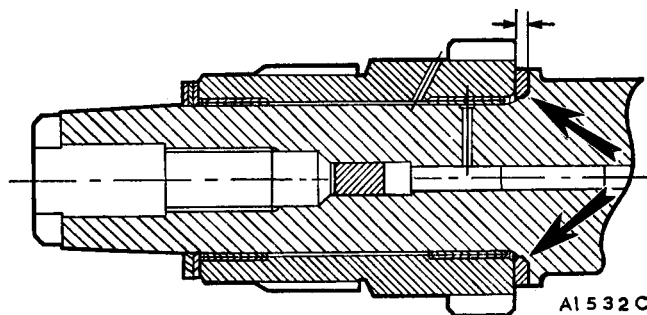

Fig. A.16
6. Check the primary gear running clearance (Fig. A.16). Fit the inner thrust washer with its chamfered bore against the crankshaft flange.